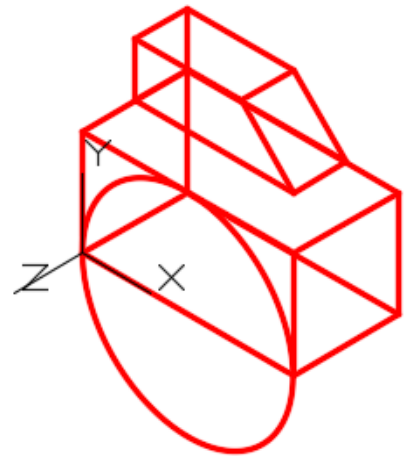

Figure Step 6
Step 6 With the UCS set to Front, draw a circle by snapping to the midpoint of the bottom edge for the center and one of the bottom corners for the radius. (Figure Step 6)